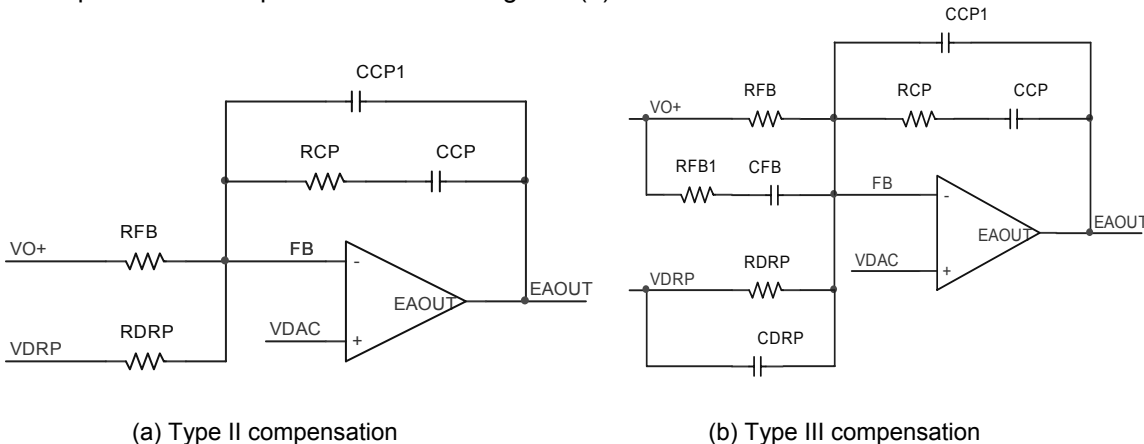

Figure 9. Voltage loop compensation network
Resistors RFB and RDRP are chosen according to Equations (15) and (16), and the selection of compensation types depends on the output capacitors used in the converter. For the applications using Electrolytic, Polymer or AL-Polymer capacitors and running at lower frequency, type II compensation shown in Figure 9(a) is usually enough. While for the applications using only ceramic capacitors and running at higher frequency, type III compensation shown in Figure 9(b) is preferred.
For applications where AVP is not required, the compensation is the same as for the regular voltage mode control. For converter using Polymer, AL-Polymer, and ceramic capacitors, which have much higher ESR zero frequency, type III compensation is required as shown in Figure 9(b) with RDRP and CDRP removed.